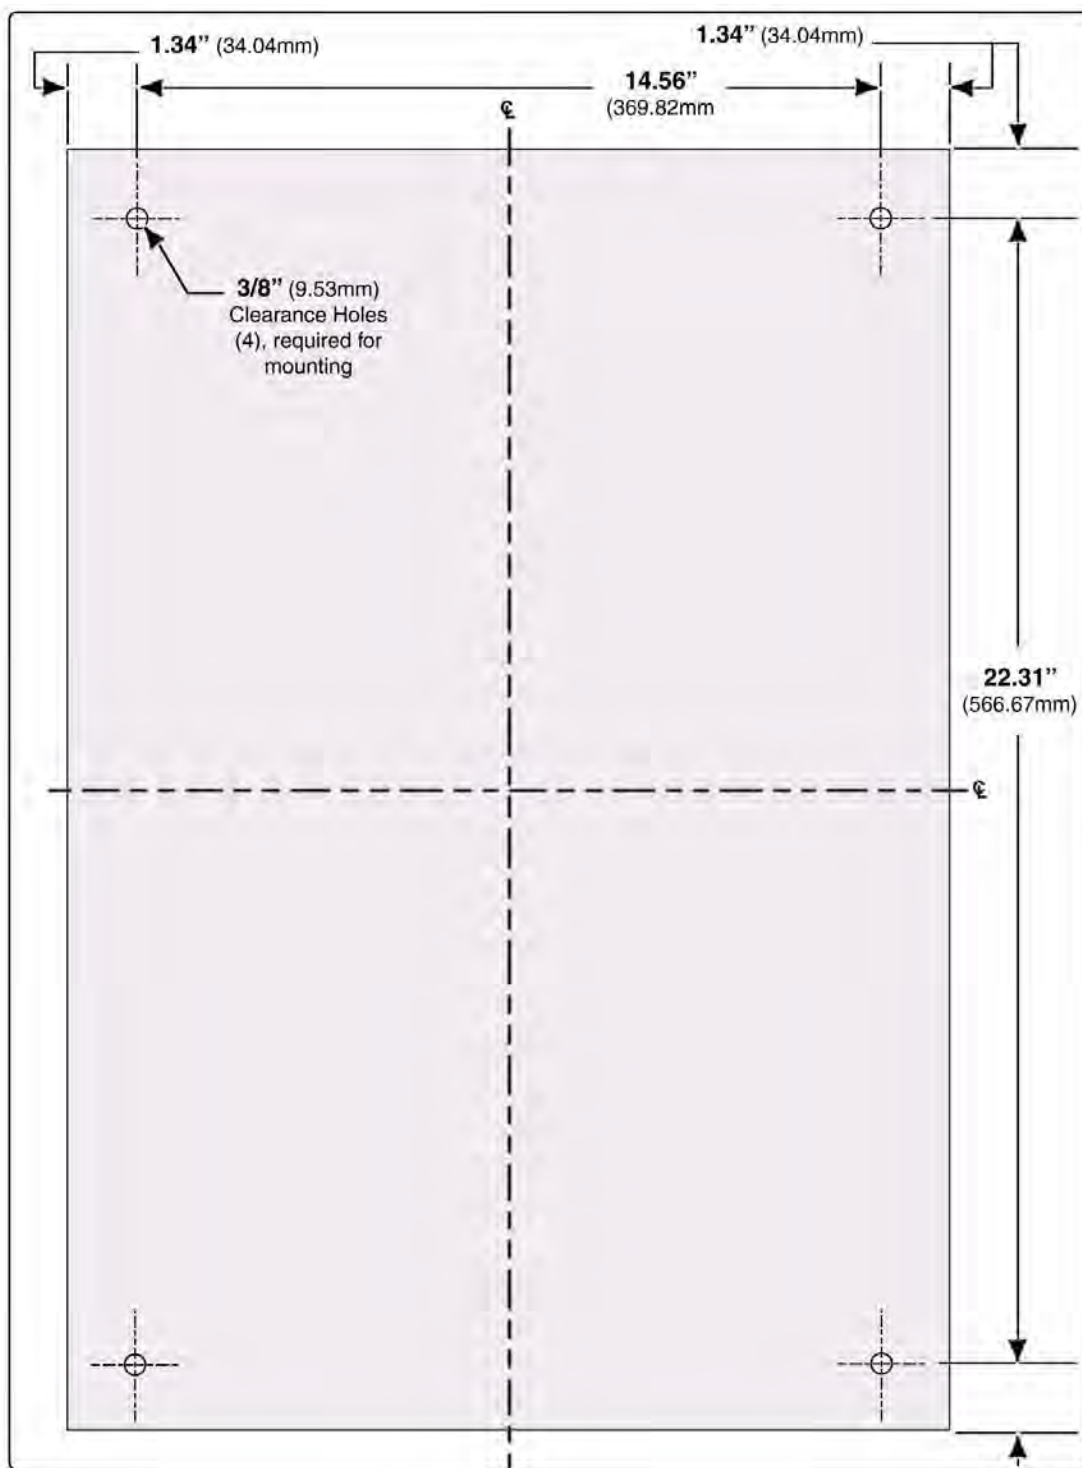

Figure 3-2: "X" Series Mounting Dimension Layout Drawing
1. Remove the mounting bolts and shock absorber feet from the four (4) corners of the pump. Retain the bolts and feet.
2. On the apparatus, mark the location of the mounting holes and drill 3/8" (9.5 mm) diameter holes in accordance with the mounting dimension drawing. (See Figure 3-2: "'X' Series Mounting Dimension Layout Drawing," on page 35.)